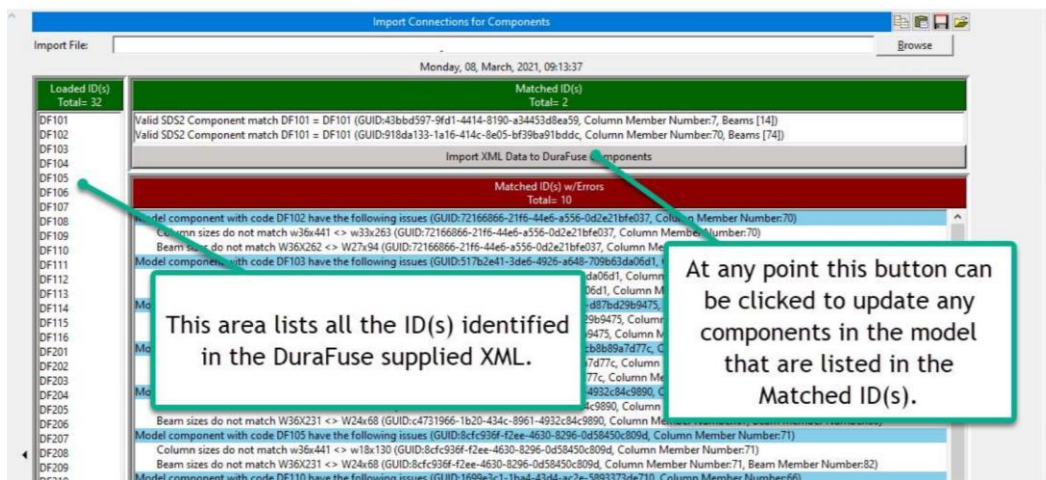

Figure 18. Update the XML and Identified Connection ID's
3. Select the button **Import XML Data to DuraFuse Components** (see Figure 18). This will import all the connection information for each connection ID assigned in the model